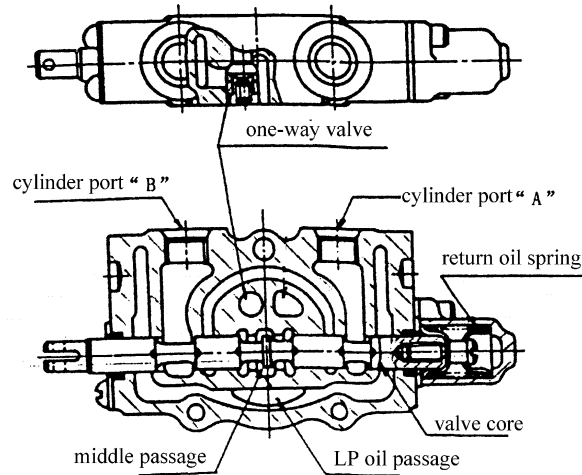

Fig.6.2 Middle position
(1) Middle position (See Fig.6.2)